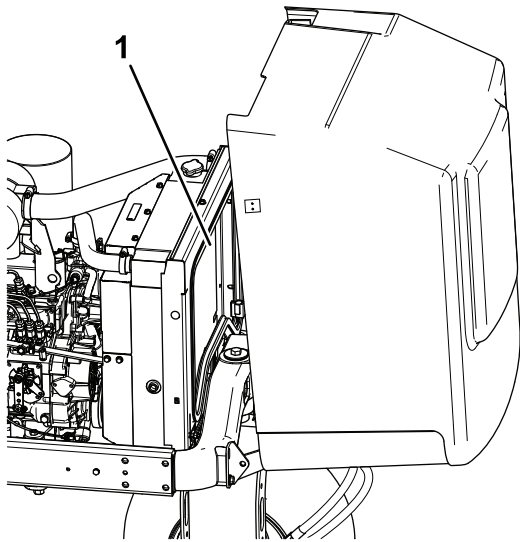

Figure 69
5. Clean both sides of the radiator area thoroughly with water or compressed air (Figure 69).